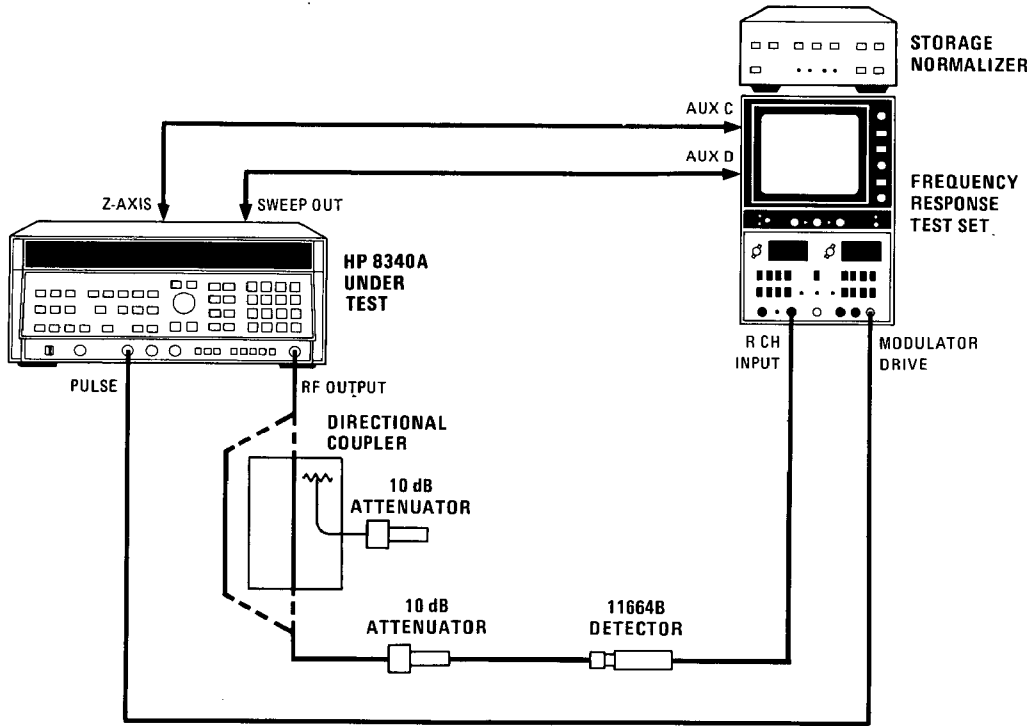

Figure 5-59. Coupler Slope Characterization Test Setup
10. Connect equipment as shown in Figure 5-59. Connect 10 dB Attenuator and 11664B Detector directly to 8340A RF Output. Allow at least 30 minutes warm up. Press 8340A [INSTR PRESET]. Press [START FREQ] and enter [2] [.] [4] [GHz]. Stop frequency should be 26.5 GHz. Press [PULSE] ON.
12. Insert the directional coupler and the second 10 dB attenuator as shown in Figure 5-59. Press 8750A [INPUT-MEMORY]. Press 8340A [SLOPE] ON. Adjust the 8340A front panel rotary knob for the best straight line on the 8755C trace. Note the 8340A ENTRY DISPLAY value for slope. This is the correction factor for the coupler which will be used in subsequent steps.